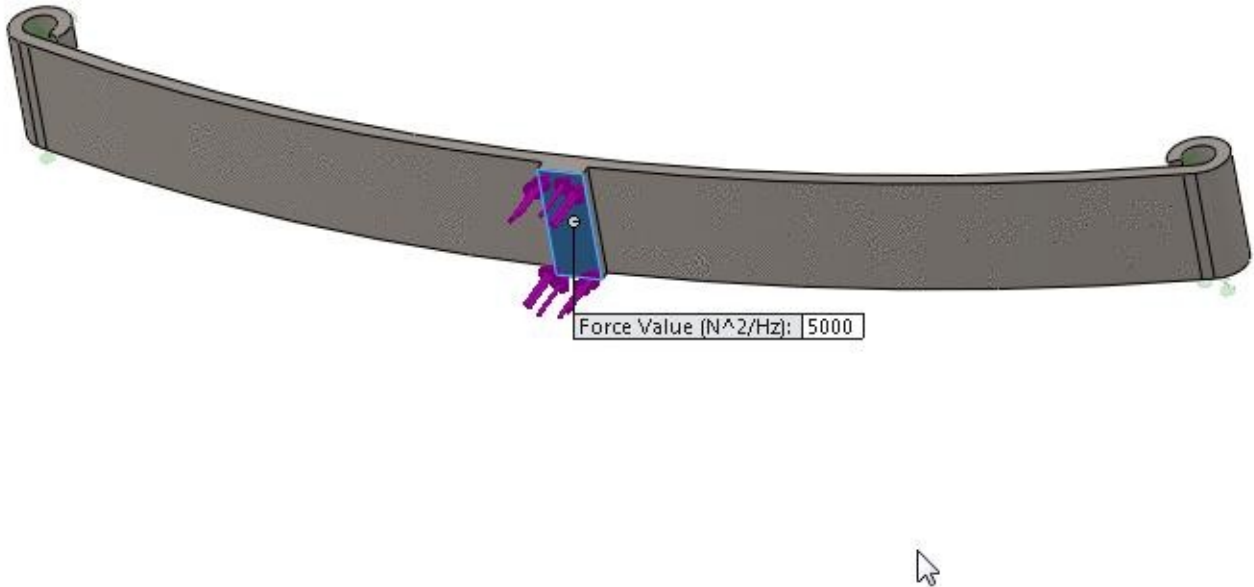

Figure-5. Face of model to be selected
- Select the face of the model as shown in Figure-5.